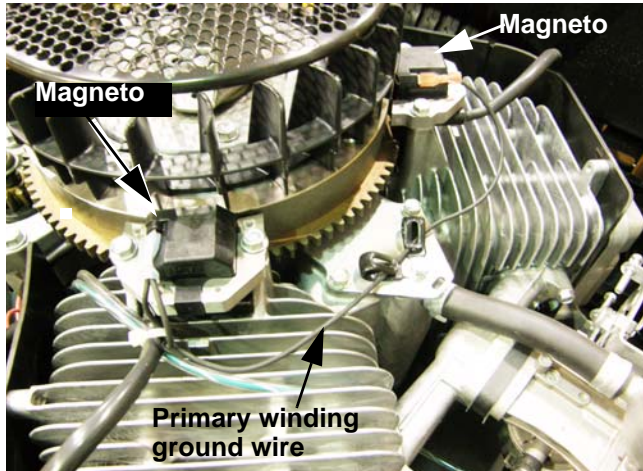

Figure 7.13
1. The ignition sparks are generated by a **magneto**. The magneto will work as long as the primary windings are not grounded. With the key switch in any position other than off, there is no connection between the M (Magneto) terminal and the G (Ground) terminal. See Figure 7.13.